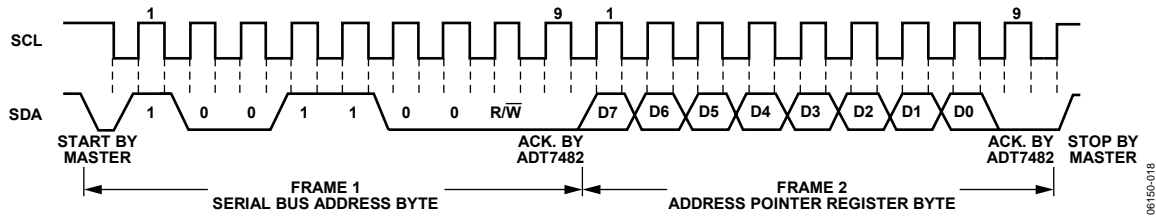

Figure 18. Writing to the Address Pointer Register Only
- If the ADT7482 address pointer register value is unknown or not the desired value, it is first necessary to set it to the correct value before data can be read from the desired data register. This is done by performing a write to the ADT7482 as before, but only the data byte containing the register read address is sent, as data is not to be written to the register. This is shown in Figure 18.
- If the address pointer register is known to be already at the desired address, data can be read from the corresponding data register without first writing to the address pointer register and the bus transaction shown in Figure 18 can be omitted.